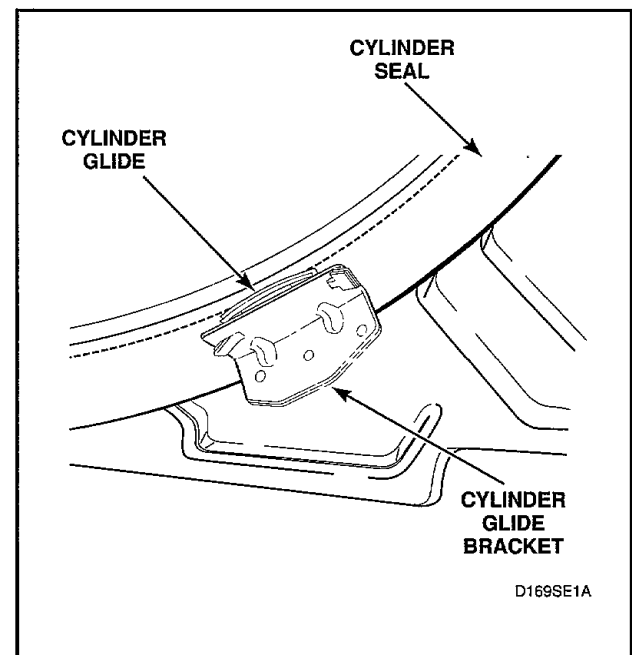

Figure 39
NOTE: When reassembling the front bulkhead to the cabinet, hold glides in position with finger tips on the edges of glides. Once bulkhead is in place, inspect the glide position with a mirror to insure the glides are aligned with the cylinder, making sure the tabs are visible, *Figure 39*.
- g. **Cylinder glides and pads** (*Figure 39*)
(1) Unsnap glides from each glide bracket and remove glides and pads.
- h. **Front cylinder seal** (*Figure 39*)
NOTE: When reassembling the front bulkhead to the cabinet, hold glides in position with finger tips on the edges of glides. Once bulkhead is in place, inspect the glide position with a mirror to ensure the glides are aligned with the cylinder, making sure the tabs are visible, *Figure 39*.